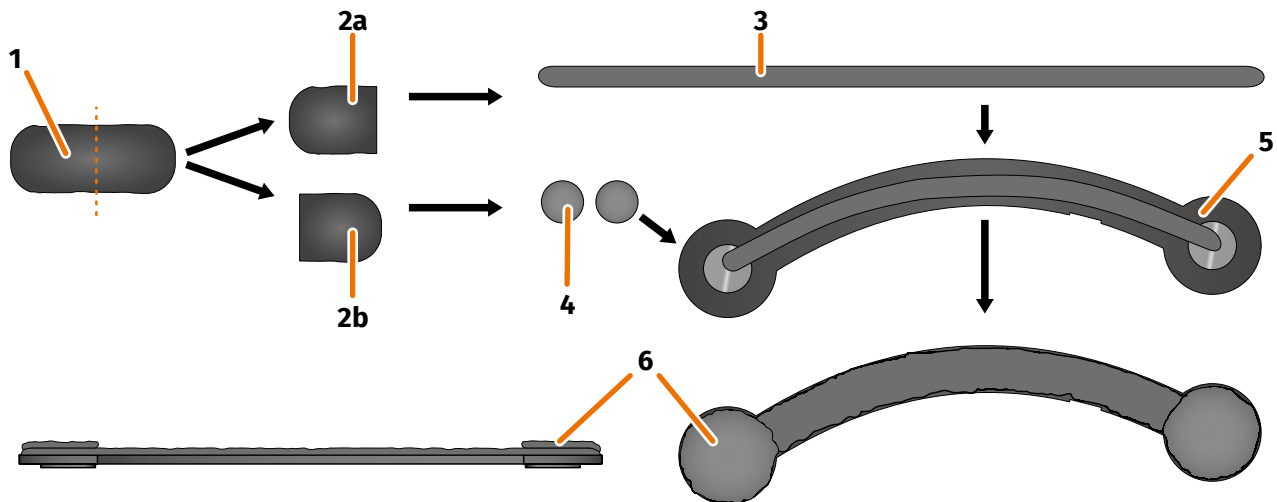

FIGURE 13 // Applying Sugru to the narrow helmet adapter
1. Open a pack of Sugru and remove the content (FIGURE 13/1) from the package.
2. Divide the Sugru into two halves (FIGURE 13/2a and 2b).
3. Use one half of the Sugru (FIGURE 13/2a) to form a roll (FIGURE 13/3) that is approximately as long as the helmet adapter.
4. Split the other half of the Sugru (FIGURE 13/2b) into two equal parts and roll both of them into balls (FIGURE 13/4).
5. Place the roll (FIGURE 13/3) on the side of the helmet adapter on which you can see the magnets (FIGURE 13/5).
7. Place each of the two balls you have formed on the round ends of the helmet adapter and carefully and evenly flatten them so that they blend with the layer of Sugru that has already been applied (FIGURE 13/6).